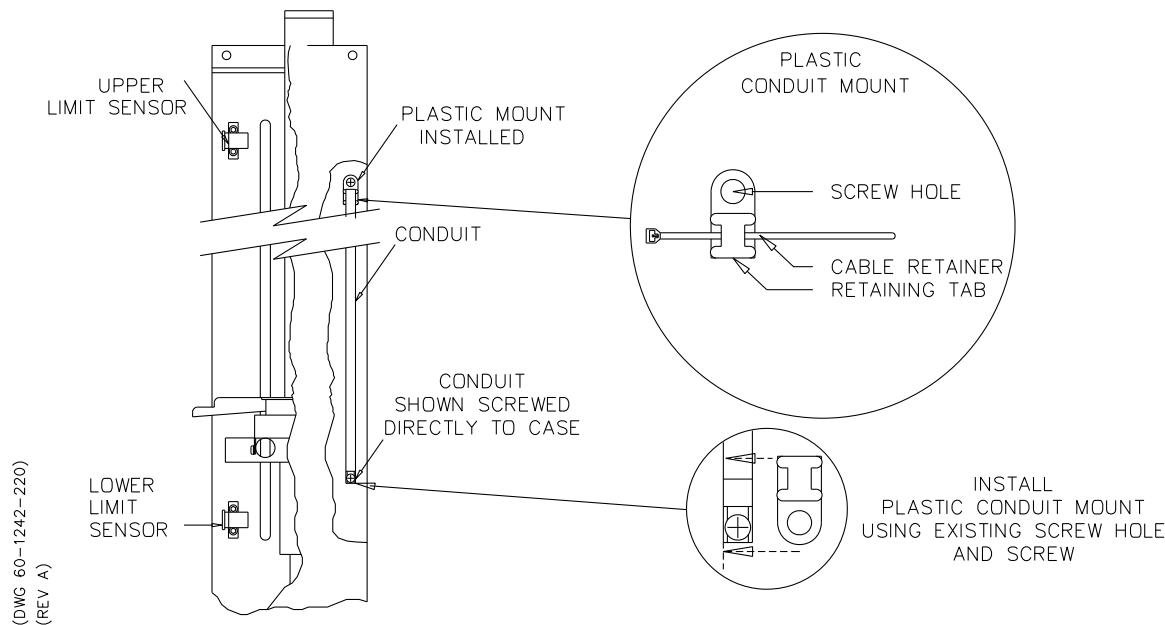

Figure 5-11 Installing the plastic mounts
- b. Then use the same screws and holes to install the mounts. Be sure the tab portion of the mount is facing away from the sensors, as shown in Figure 5-11, (the screw aperture is closest to the sensors).